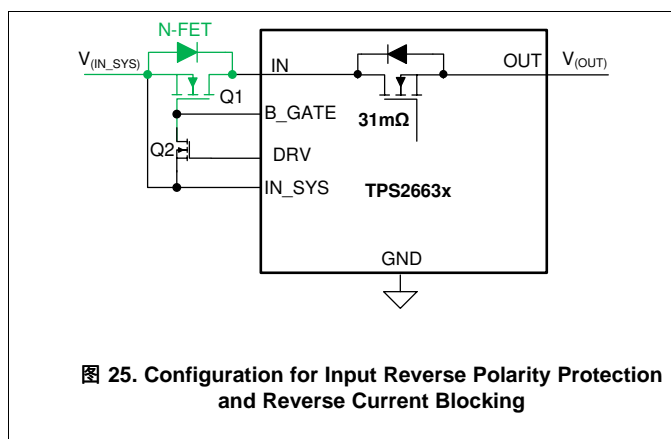
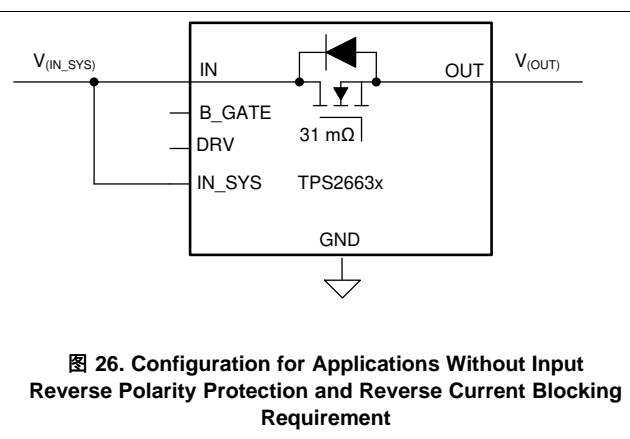
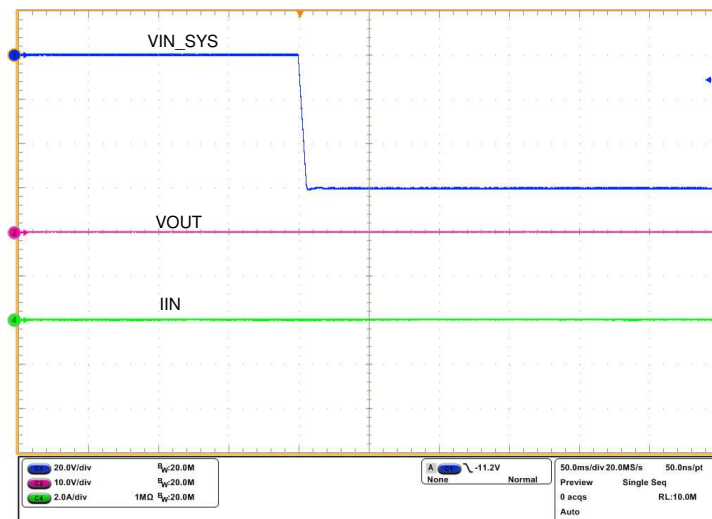

图 25. Configuration for Input Reverse Polarity Protection and Reverse Current Blocking
图 26. Configuration for Applications Without Input Reverse Polarity Protection and Reverse Current Blocking Requirement
图 27. Input Reverse Polarity Response at -60-V Input
The TPS2663x devices support the reverse input polarity protection feature. Connect an N-channel power FET (Q1) with the source to IN_SYS, drain to IN and GATE to B-GATE as shown in 图 25. This forms a back to back FET topology in power path that is required to protect the load from input reverse polarity faults. Connect an external signal FET (Q2) across BGATE, DRV and IN_SYS. Q2 acts as a pull down gate switch for Q1. In the applications where reverse polarity protection and reverse current blocking is not required then connect IN_SYS and IN together. Leave BGATE and DRV open as shown in 图 26. 图 27 illustrates the reverse input polarity protection functionality.
- If the external N-channel FET is not used then connect IN_SYS and IN together and leave B_GATE and DRV pins floating as shown in 图 27. Do not leave any of the IN and OUT pins un-connected.